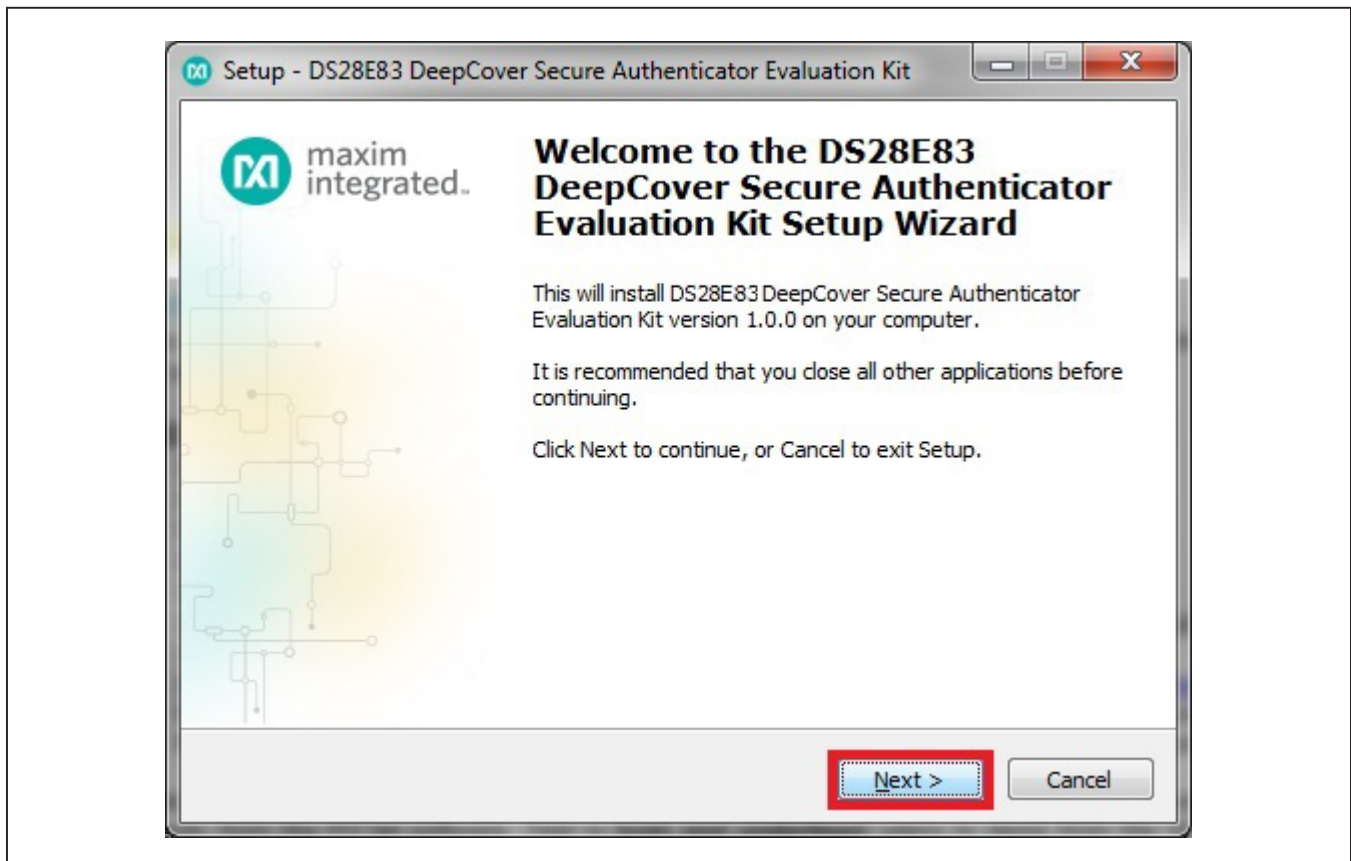

Figure 2. DS28E83 Setup Wizard
- 3) The setup wizard opens; click on **Next**, as shown in Figure 2.